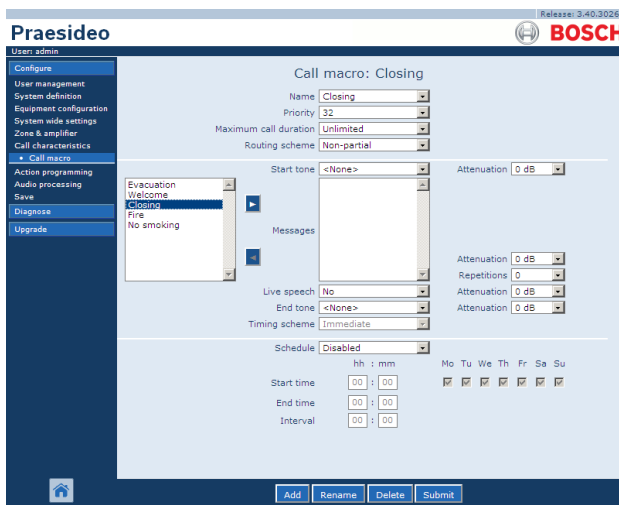

figure 46.5: Add call macro, step 4
- 4 Click the *OK* button to add the call macro to the list of call macros in the system. A screen similar to the one in figure 46.5 appears in the main frame of the web interface.